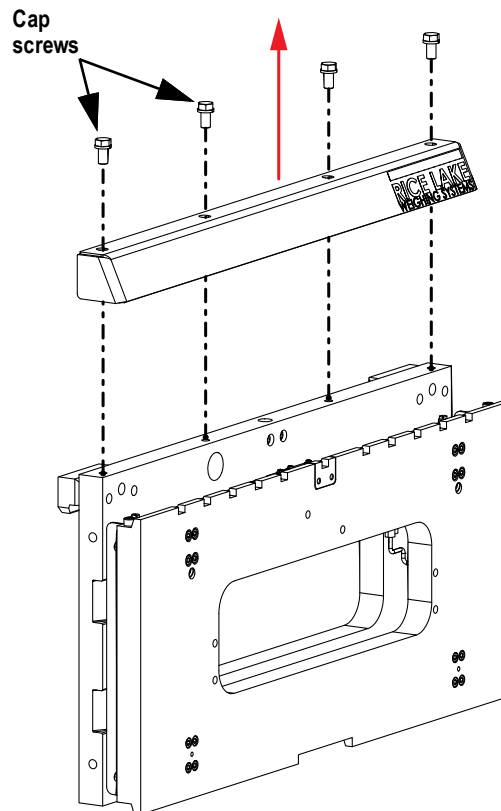

Figure 1-1. Top Cover Removal
1. Use a 3/4 in wrench to remove the four hex head cap screws securing the top cover (see Figure 1-1).